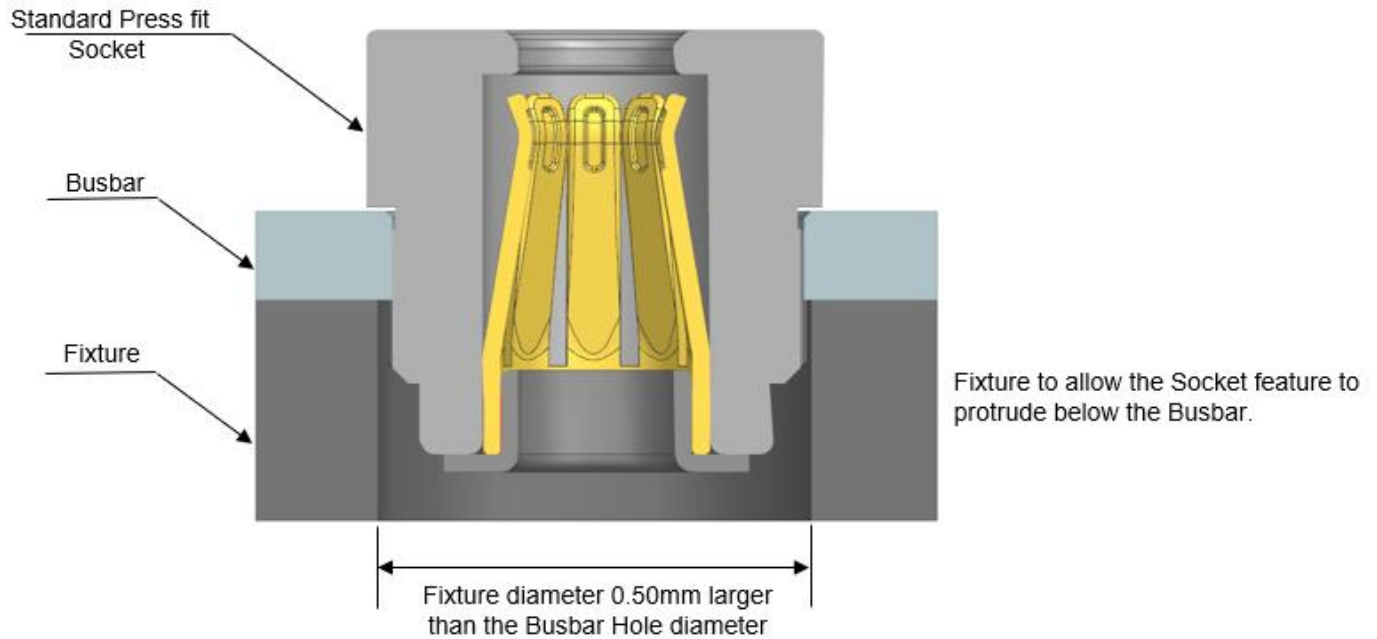

Figure 5.3.1
- a. Fixture should have a hole clearance of 0.50mm with respect to Busbar hole dimension for free flow of socket during press. Refer to below figure 5.3.1.